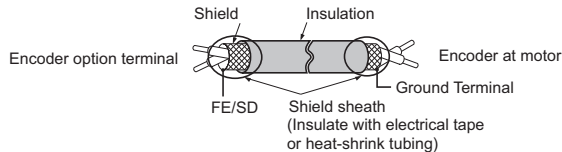

Figure 6 Prepare Ends of Shielded Cable
4. Prepare and connect the wire ends as shown in **Figure 6** and **Figure 7**. Refer to **Wire Gauges and Tightening Torques on page 38** to confirm that the proper tightening torque is applied to each terminal. Take particular precaution to ensure that each wire is properly connected and wire insulation is not accidentally pinched into electrical terminals.